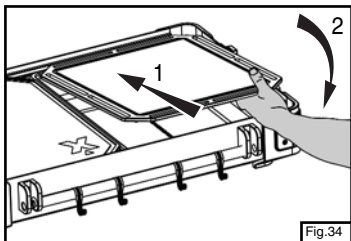

Fig. 34
- Insert one edge of the griddle into the channel on the food prep side. Push the griddle into the channel against the foam rubber padding. Rotate the other edge down (Fig. 34).